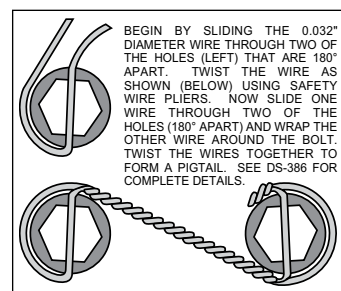

Figure 3. Safety Wire Diagram
- With the larger I.D. side of the rotor (3) facing away from the hat (4), bolt rotor (3) to hat (4) through the backside of the rotor using washers (5) and bolts (6). Apply red *Loctite*® 271 to the bolt threads and torque to 155 **in-lb** using a criss-cross pattern. For an added measure of security, the bolts may be safety wired using standard 0.032 inch diameter stainless steel safety wire as shown in Figure 3. Please refer to Wilwood's data sheet DS-386 (available at [www.wilwood.com/Pdf/DataSheets/ds386.pdf](http://www.wilwood.com/Pdf/DataSheets/ds386.pdf)) for complete safety wire installation instructions.